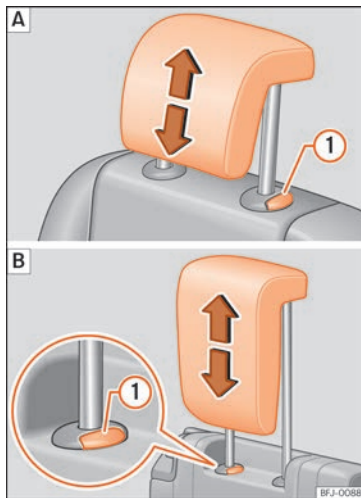

Fig. 145 Removal of the rear head restraints:
- Remove the head restraint completely while pressing button »» **Fig. 145** **1**.